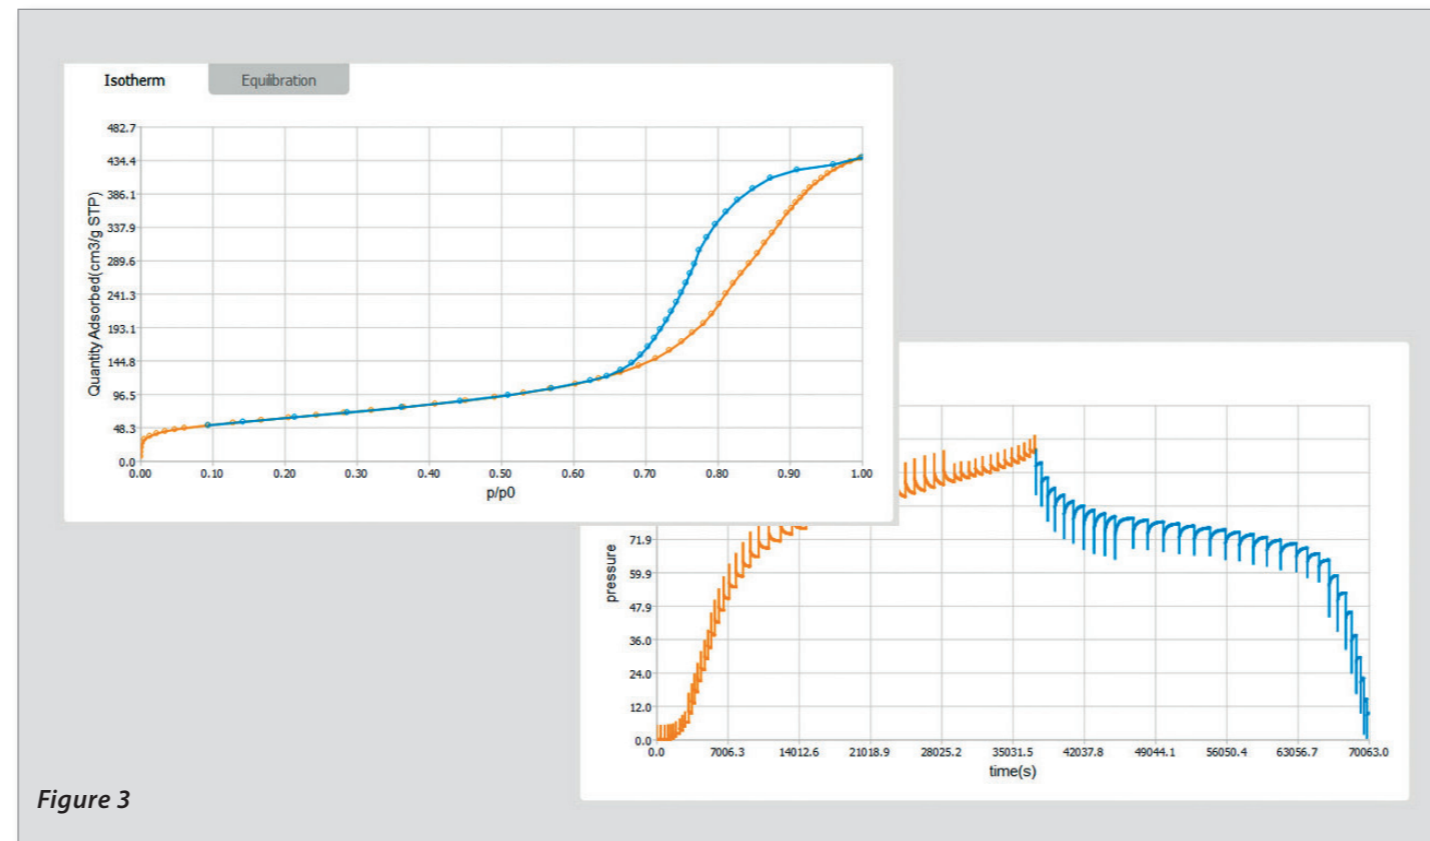

Figure 3
- Presentation of **real-time kinetic data (pressure versus time)** to check and visualize equilibrium conditions (Figure 3).